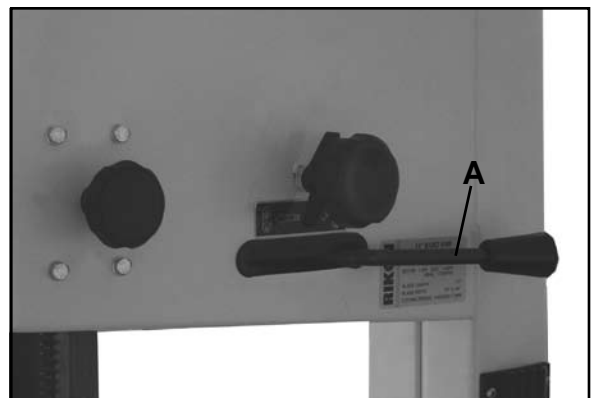
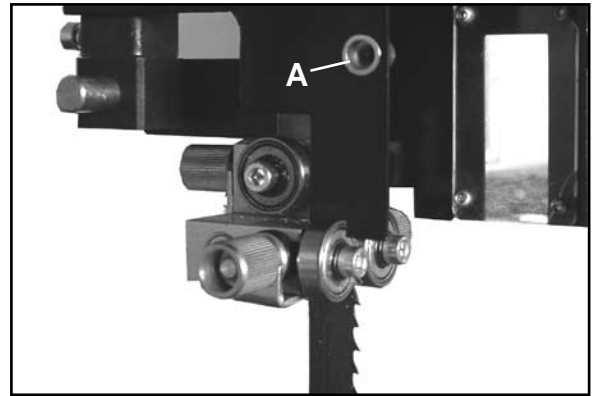

Figure 21
Figure 22
- b) Release the blade tension by moving the quick release lever (A-Fig.21) from right to left. Open the hinged door on the blade guard by loosening the hex screw. (A-Fig. 22 on page 15)
- f) Re-tension the new blade by moving the quick release lever (A-Fig.21 on page 14) right to left and check the blade tracking. The blade should run in the center of the wheel. Refer to "Tracking the Saw Blade" on page 11 for more details.
- i) Close the hinged door on the blade guard and tighten the hex screw. (A-Fig.22)